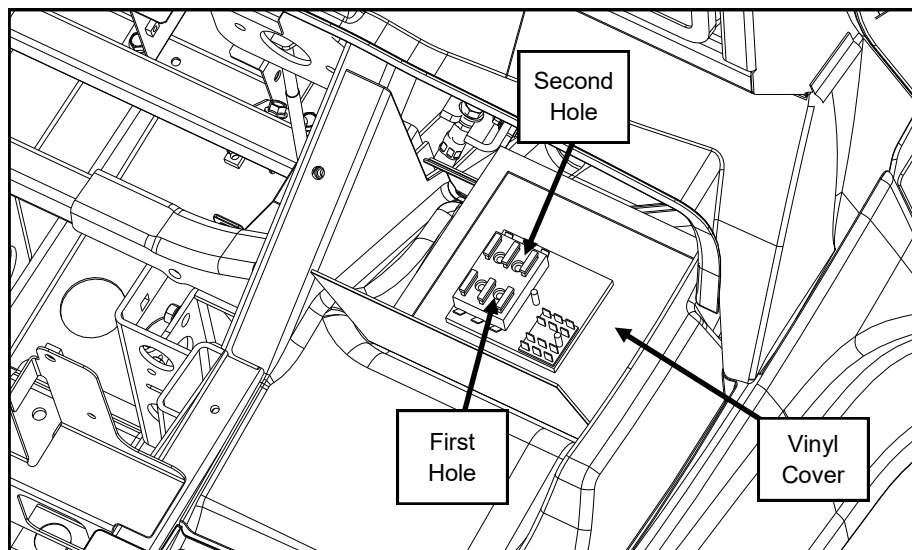

Fig. 1
1. Open the hood and position the vinyl cover and fuse block as shown in figure 1. The fold in the vinyl should be towards the front of the vehicle and centered on the plastic wheel well. The holes in the vinyl should line up with the holes in the fuse block.